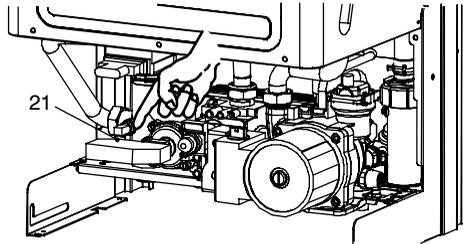

Fig. 8.3
- 9 Disconnect the C.h. temperature probe NTC 21 in Fig. 8.3
- 11 Connect the C.h. temperature probe NTC 21 in Fig. 8.3